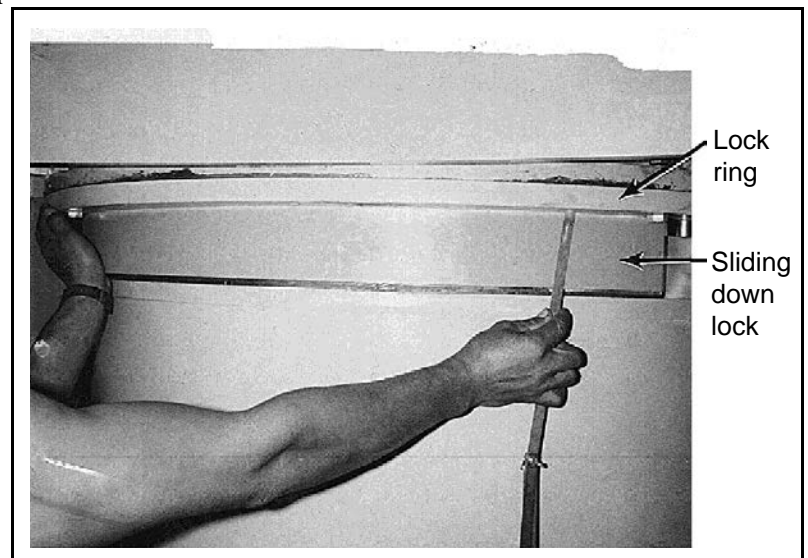
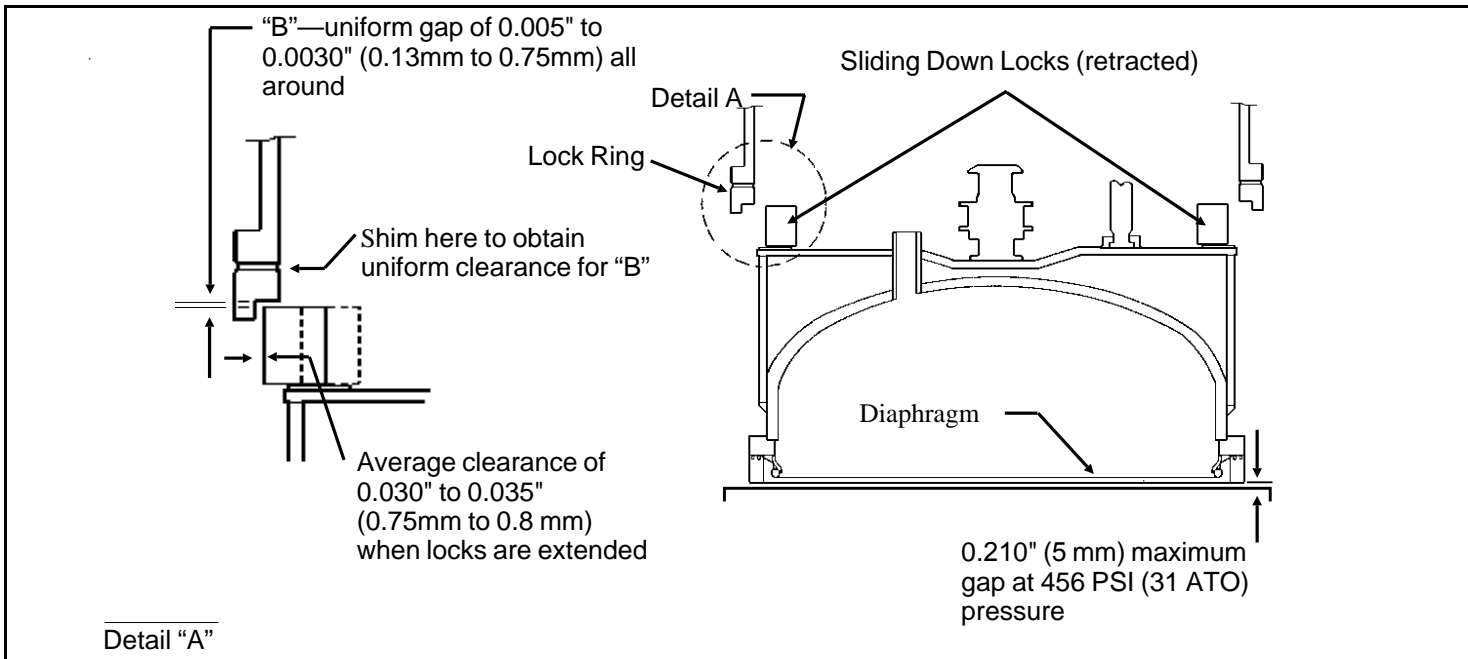

FIGURE 1 (MSSM0901AE)
FIGURE 2 (MSSM0901AE)
3. Check the clearance between each sliding down lock and the lock ring with a feeler gauge as shown in FIGURE 1. If an uneven gap exists between a sliding lock and the lock ring, simply allow the lock to pivot at its clevis joint (by bumping the lock with your hand) until an equal gap is achieved toward each end of the lock. A clearance of 0.030" to 0.035" (0.76mm to 0.89mm) must uniformly exist between a down lock and the lock ring (FIGURE 2).
4. Determine that the air cylinder that lowers the bell is pressurized. Check the clearance between the entire top of each sliding lock and the lock ring (gap "B" in FIGURE 2). A clearance of 0.005" to 0.030" must exist to prevent the possibility of the lock binding on the lock ring. The usual causes of an insufficient gap is the presence of foreign matter between the sliding lock and the wear plate or an obstruction between the bell and the bed. With the down locks extended and the bell pressurized, a maximum gap of 0.150" must exist between the bell and the bed (see FIGURE 2).